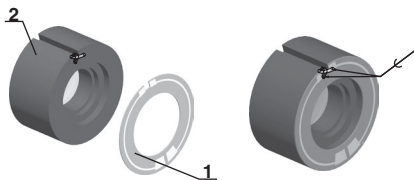

FIGURE 3-7. INSTALLATION OF THE BOARD TO THE TUBE
- Unsolder tube wires from the board on the tube end (Figure 3-7). Accurately separate the board (Figure 3-7, 1) from the tube for second using.
- Align the board groove with the tube groove and glue the board (Figure 3-7, 1) onto the rear end surface of the tube (Figure 3-7, 2).